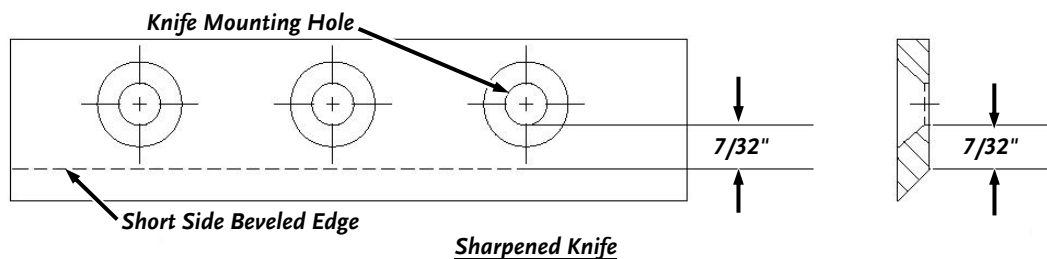

Figure 20
- Once this measurement is below 7/32" (**Figure 20**), or if you are unable to remove dents or gouges with these guidelines, replace the Knife.